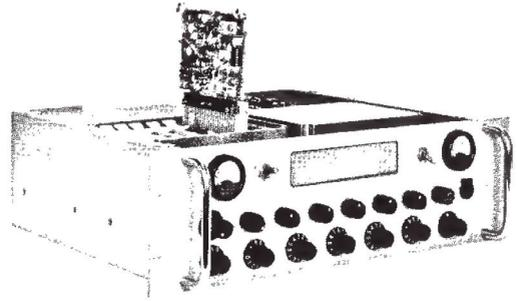

Figure 5.2 — RF-505 Shown With an Assembly Extended for Testing
c. Connect the assembly to the extender, refer to figure 5.2.